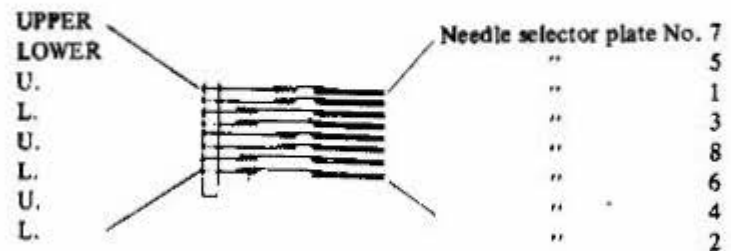

Fig. 26
2.3 Hook eight needle selector plate springs on spring hooks as illustrated above Fig. 26. Springs should be hooked on to the lower part of needle selector plates, 5, 3, 6 and 2 and on to the upper of needle selector plates, 7, 1, 8 and 4. In other words, springs are positioned up and down alternately.